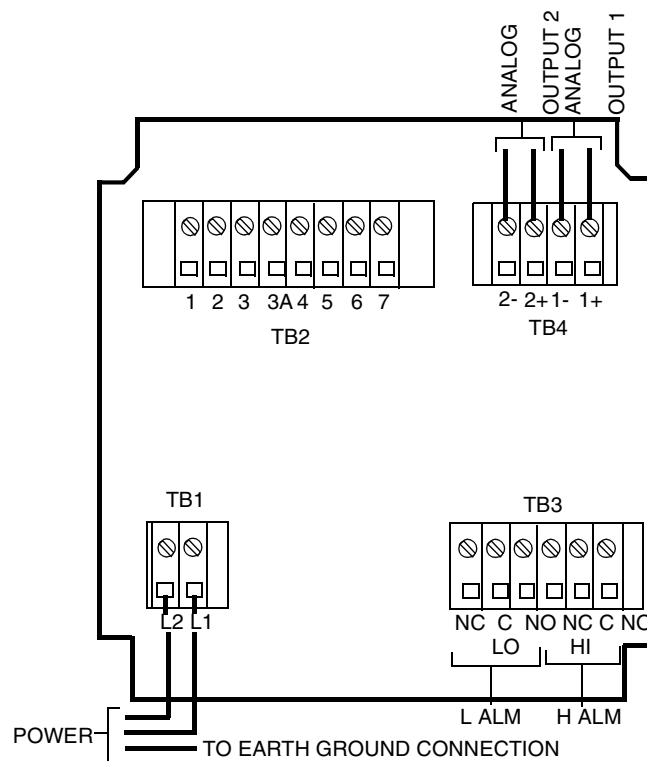

Figure 12. Metal Enclosure Rear Panel Wiring for Power, Output, and Alarms
2. Connect H and L Alarm wires to TB3 as shown in Figure 12. Failsafe operation requires connections to be made between contacts NC and C, and the alarms to be configured active. Refer also to “General Information Alarms” on page 34.
5. Connect power wires to terminal block TB1, as indicated in Figure 12. The earth (ground) connection from the power cord should be connected to the ground stud located in the bottom of the case. This connection is mandatory for safe operation.